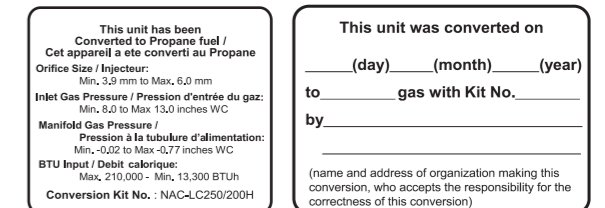

Figure 10. Proper Placement of Gas Conversion Labels
- Once the CO2 or offset values have been confirmed, apply the included conversion stickers to show that the appliance has been converted to propane gas. Place these labels adjacent to the rating plate as shown in Figure 10.